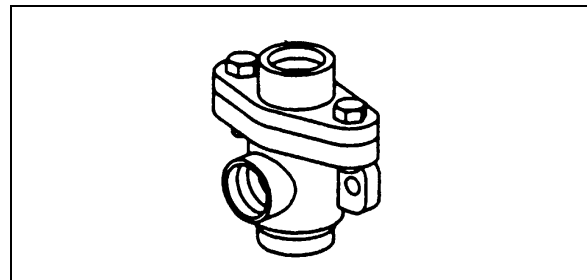

FIGURE 20: DC-4
At each pad replacement, make sure the caliper operates smoothly over its full range of movement. If the caliper shows the following signs, replacement of the guide sleeve (6c, fig 20), guide pin, screw (39) and cap is required.
Additionally, inspect the tappet and boot assemblies (13, Figure 20), the adjuster cap (37) and the sealing elements (9, 58) for correct fitting and condition as well as the caliper bearing in the area of the rubber bush/guide sleeve (6) (see *Knorr-Bremse Pneumatic Disc Brake Y006471 Service Manual*).